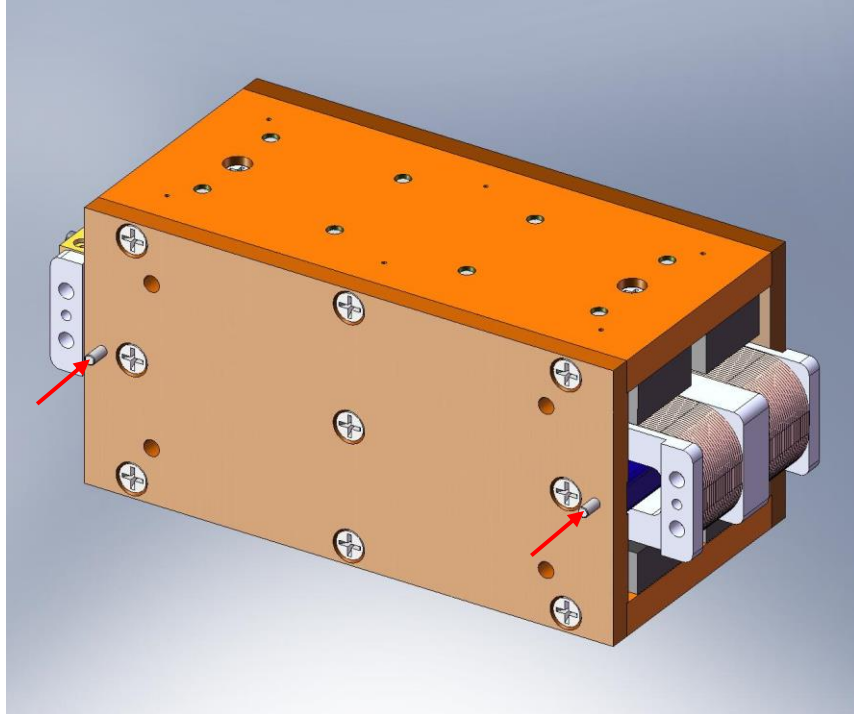

Figure 4.20. Press (2) pins into the Field Assembly.
- Press (2) 1/8"x.50" dowel pins into the PSI Actuator Field Assembly, as shown in Figure 4.20. These pins should stick out of the Field Assembly's Bottom Plate by .25".